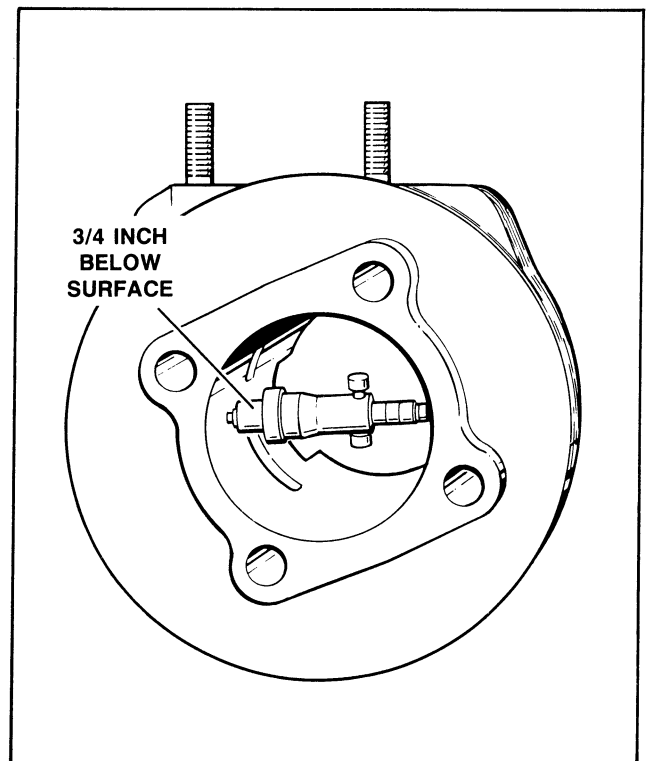

Figure 57 – Cylinder Bore Measurement
- b. See Figure 57. Take cylinder bore measurement 3/4 in. from top of bore, measuring from front to rear, then left to right. Record the measurements.